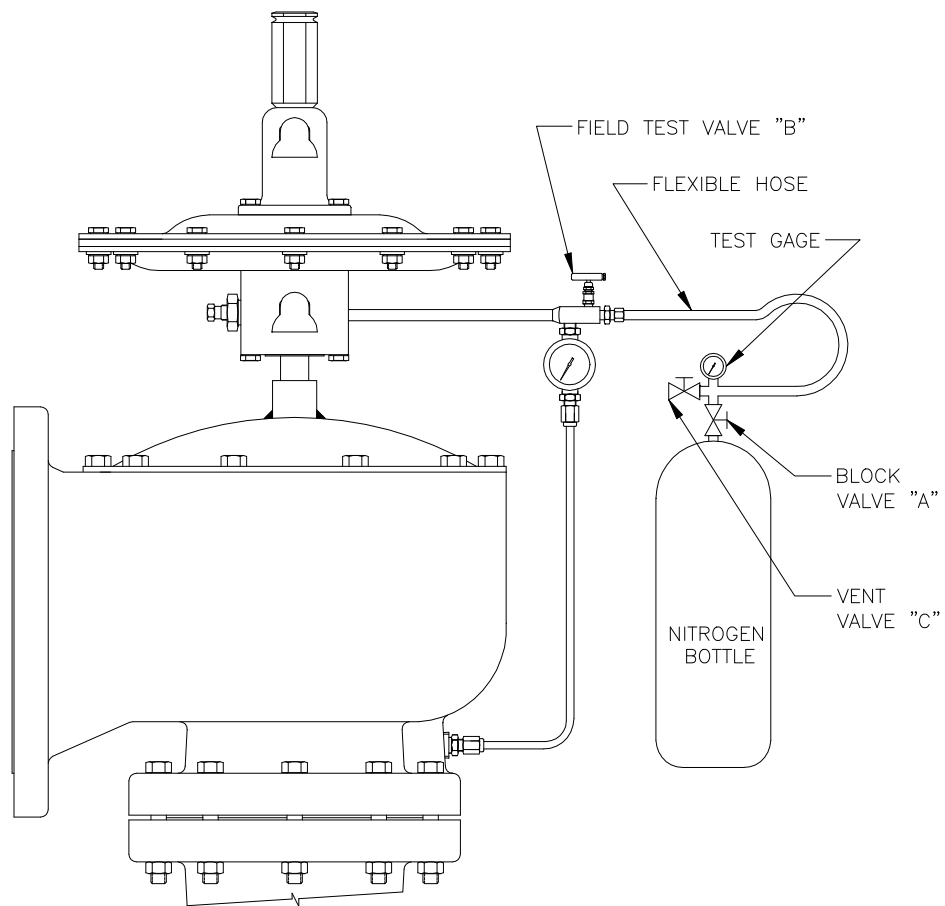

FIGURE 6
The pilot set pressure can be checked in the field by applying an external test pressure to the pilot through the Field Test Hand Valve as shown in Figure 6.
- A. Connect test gas bottle as shown in FIGURE 6.